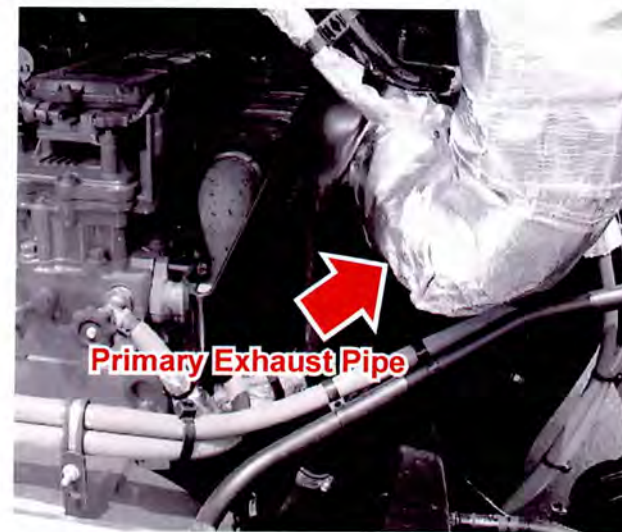

Figure 1
2. Locate the primary exhaust pipe at the turbocharger outlet (see Figure 1).